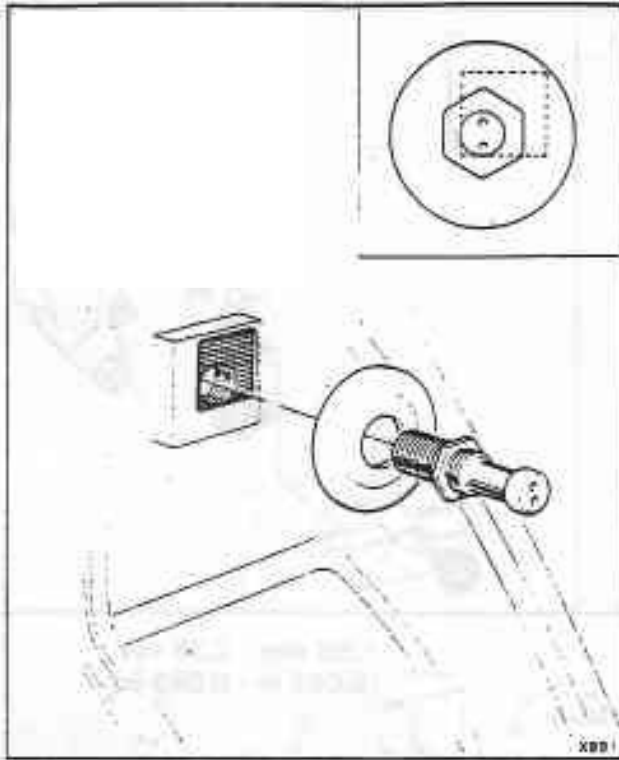

Fig. S4-15 Correct position of striker pin in 'D' post
2. Set the pin assembly to the bottom outer corner of the hole in the 'D' post (see fig. S4-15). Hold the striker pin steady and screw the lock-nut finger tight.